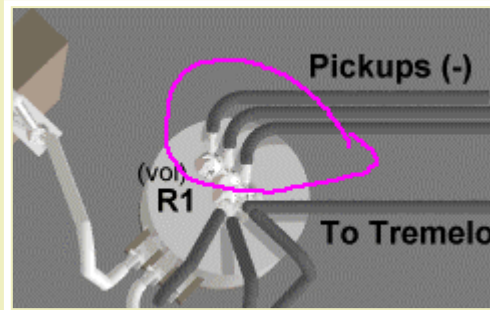
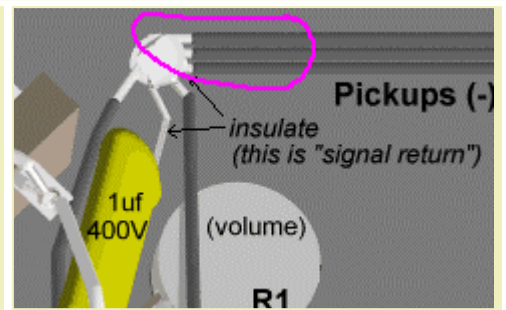

Figure 5a
Figure 5b
26. The negative leads from the pickups are probably soldered to a pot shell as shown in figure 5a. Move these wires to the signal return ring terminal as shown in figure 5b.